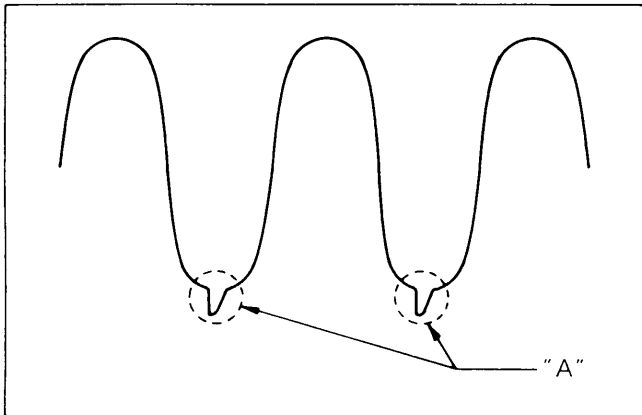

Fig.E9
3. Adjust T851 so that portion "A" is peak to negative direction as shown in Fig.E9.